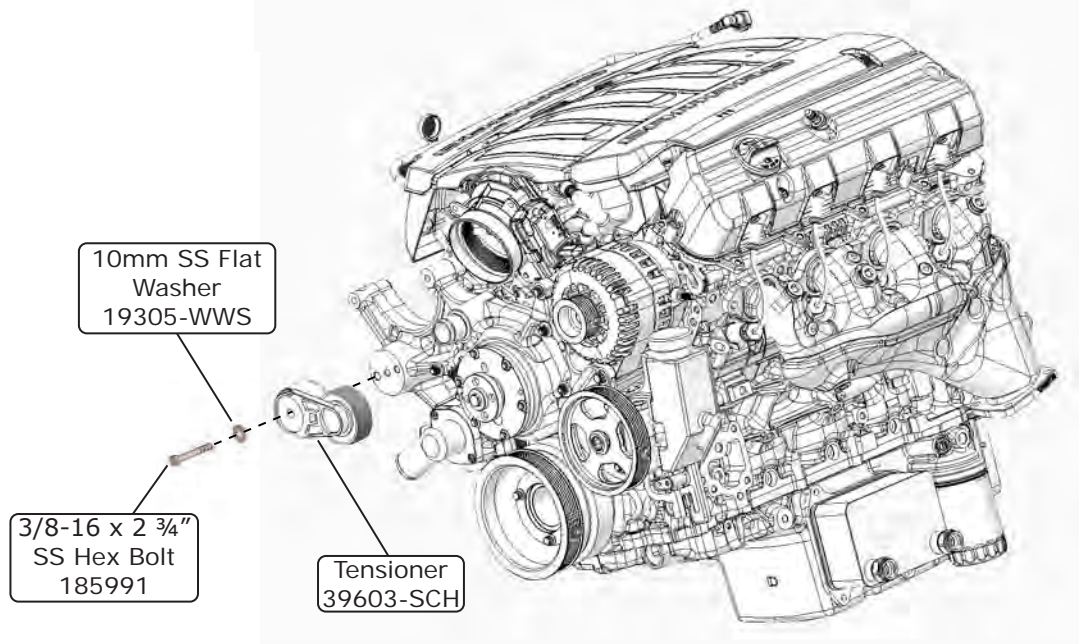

Figure 1
1. Align tensioner pins with holes in casting as shown in Figure 1, below. Secure tensioner with 10mm washer and 3/8-16 x 2 3/4" SS hex bolt torqued to 21 +/-2 lb-ft (See Figure 1, below).